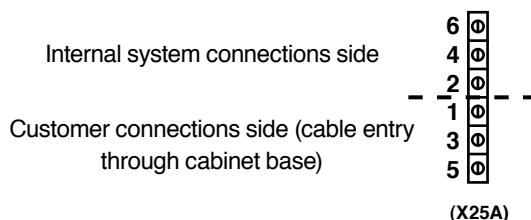

Fig. 17. Triple-deck terminal block pin arrangement, electrolyte level sensor auxiliary contact in battery cabinet.
Quick charging can also be started manually via the control panel with LCD display (see Screen 2.2 of Fig. 17).
Exceptional charging is forced manually at the will of the operator via the control panel (see Screen 2.3 of Fig. 17).
- On the screen map of Fig. 17, all of the sub-menus are exploded, including those that are 'Password' protected. Take into account the following annotations:
- It is not anticipated that the user can modify the factory settings, so the 'Password' is not supplied to enter on Screen 6.1 by specific requirements of the customer. Even so, on the screen map of Fig. 17, the whole map is shown exploded. If you require a modification or adjustment, contact our Technical Service and Support (TSS).